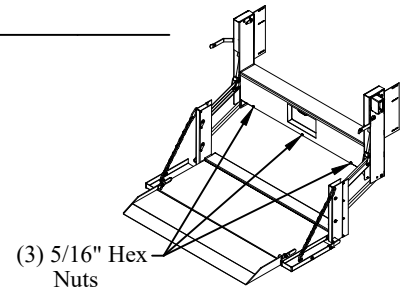

Figure 5: Box cover locations.
1. **Remove** the box cover by removing the 5/16" hex head nuts (Figure 5).